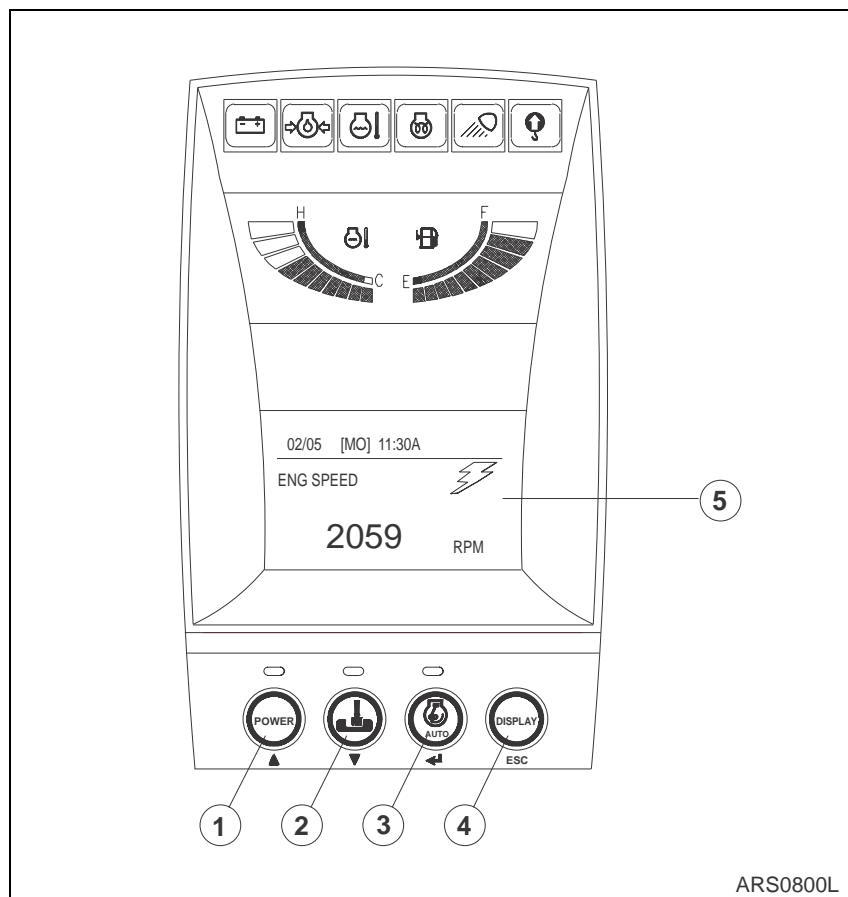

Figure 12
1. Up Arrow Button (▲, 1 on Figure 12): Move the cursor to up, left and previous screen.
2. Down Arrow Button (▼, 2 on Figure 12): Move the cursor to down, right and next screen.
3. Enter Button (↵, 3 on Figure 12): Move the menu to selected mode. When setting the menu, this button is used to function as the select button.
4. Escape Button (ESC, 4 on Figure 12): Move a screen to previous menu or main menu.